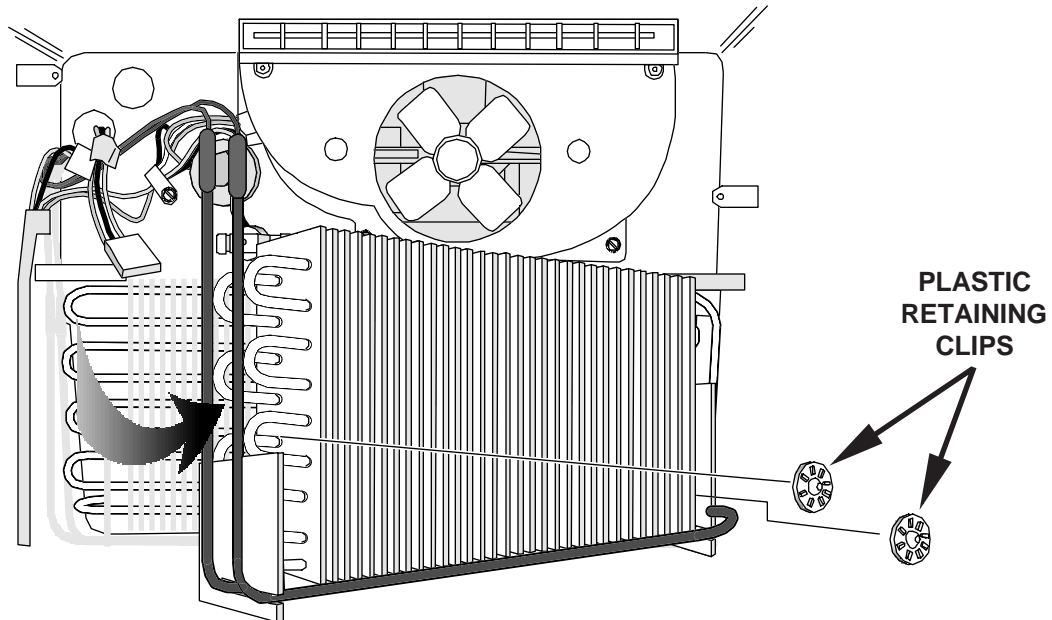

Fig. 33
2. Gently pull the left end of the evaporator away from the heat shield. Be careful not to kink the evaporator outlet tubing. (Fig. 33)